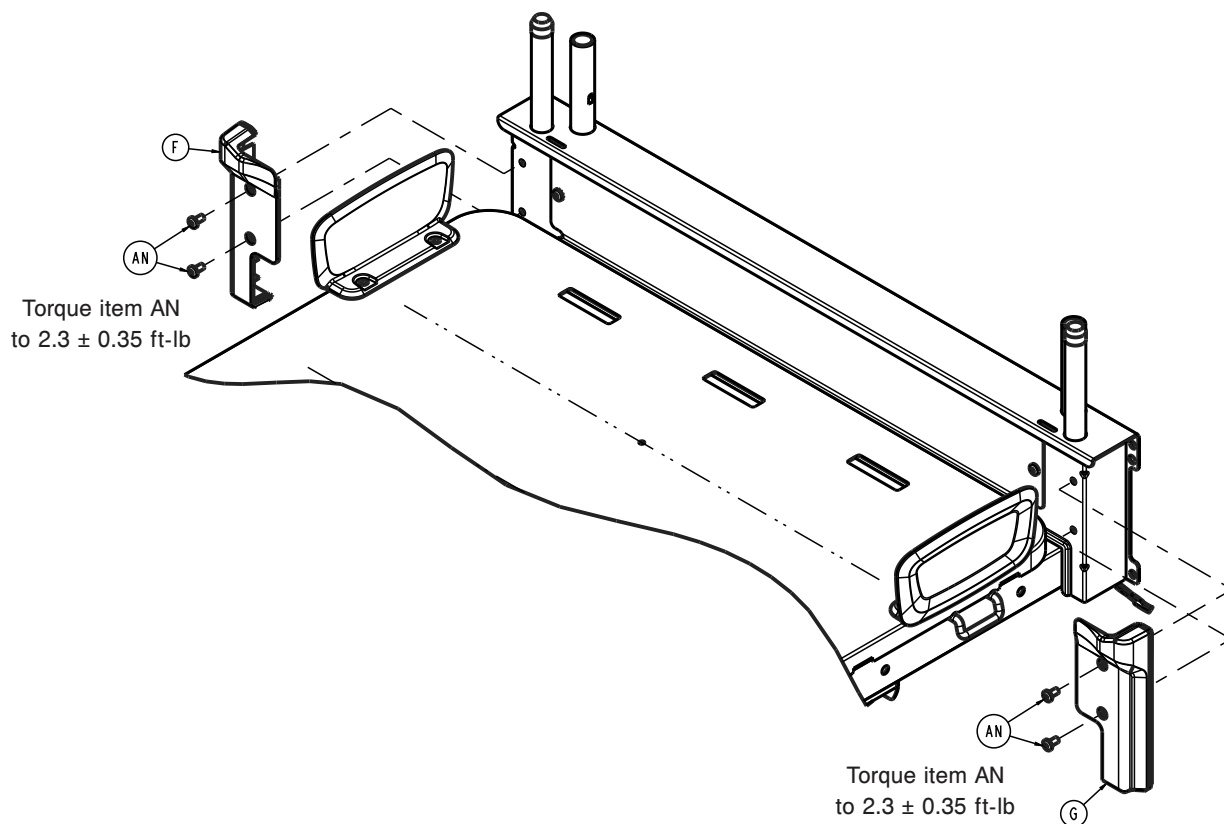

Figure 11 – Removing the cover
- Using a T30 Torx driver, remove the two screws (AN) that secure the front head cover (F, G) (Figure 11). Remove and discard the cover.
4. Using a T30 Torx driver, remove the two screws (AN) that secure the front head cover (F, G) (Figure 11). Remove and save the screws and cover.
10. Using a T30 Torx driver, remove the two screws (AN) that secure the front head cover (F) (Figure 11). Save the screws and cover.
7. Using a T30 Torx driver, remove the two screws (AN) that secure the front head cover (G) (Figure 11). Save the screws and cover.